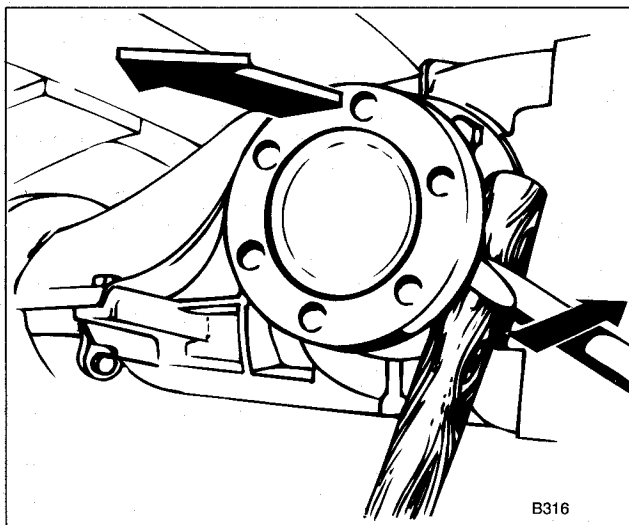

Fig. 2. Drive flange being pried off. For leverage, use a wooden dowel as shown.
3. Pry drive flange from final drive. See Fig. 2.